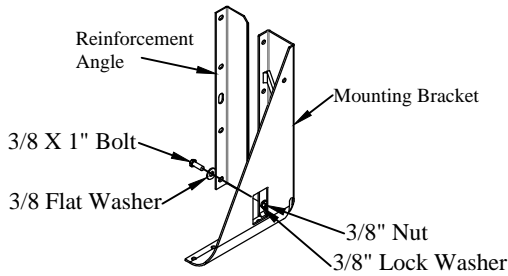

Figure 11: Mounting bracket reinforcement.
1. **Install** the bracket support angles on the mounting brackets (Figure 11).